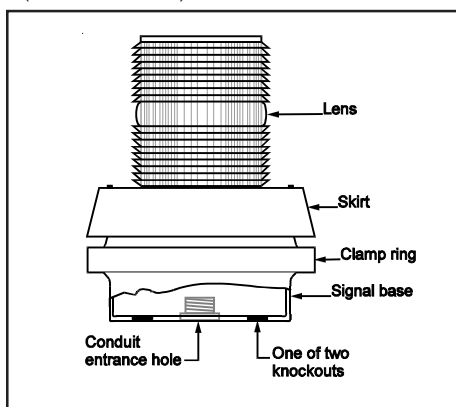

Figure 1. Catalog Series 51SIN
- See Figure 1. Remove the screw in the clamp ring, remove the ring, and lift the lens/lamp assembly off of the base.